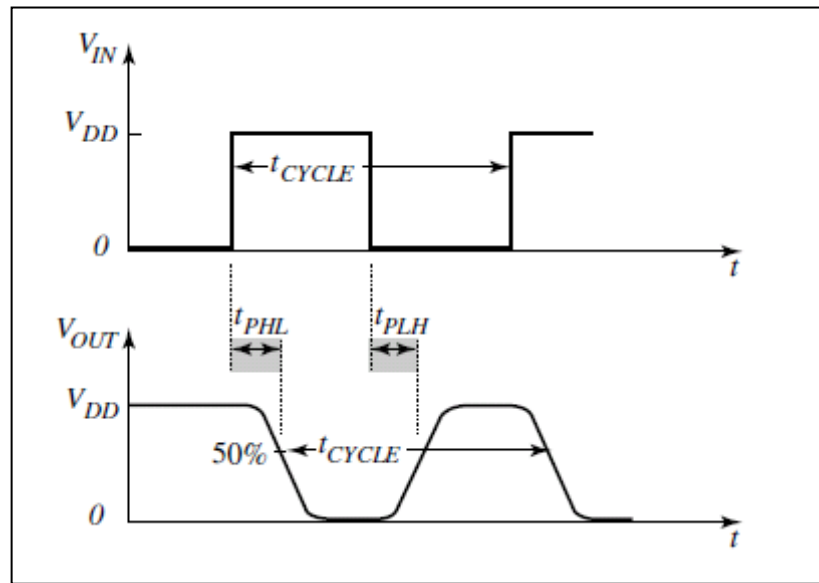

Figure 3. Propagation delays.
- After that, we can measure on this graph the **tp_{LH} and tp_{HL} delay times**. They should be measured from the midpoint of the input and output edges, as illustrated in Figure 3. We recommend the use of cursors. To measure them better, you can zoom in the area of the edges.